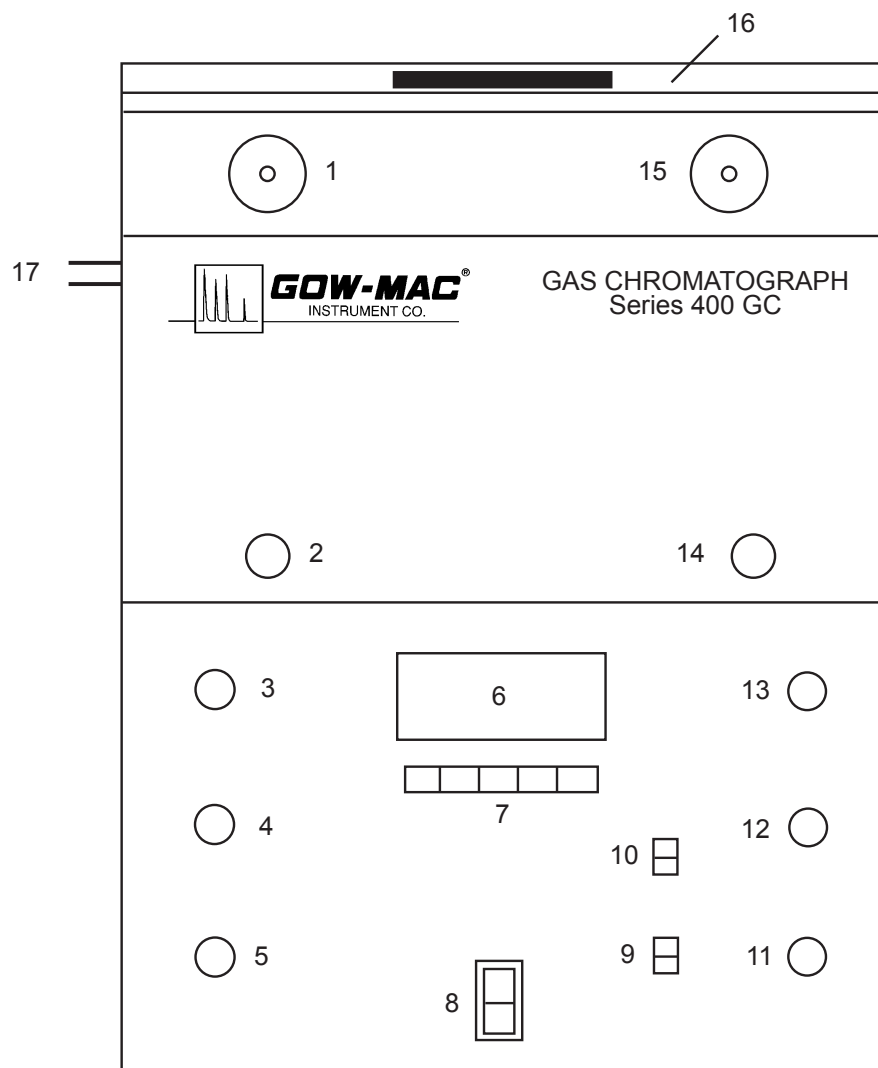

Figure 4-1
- A. All operating controls of the Series 400 GC are located on the front panel. The operator should become familiar with these controls and their functions before continuing. Refer to Figure 4-1.